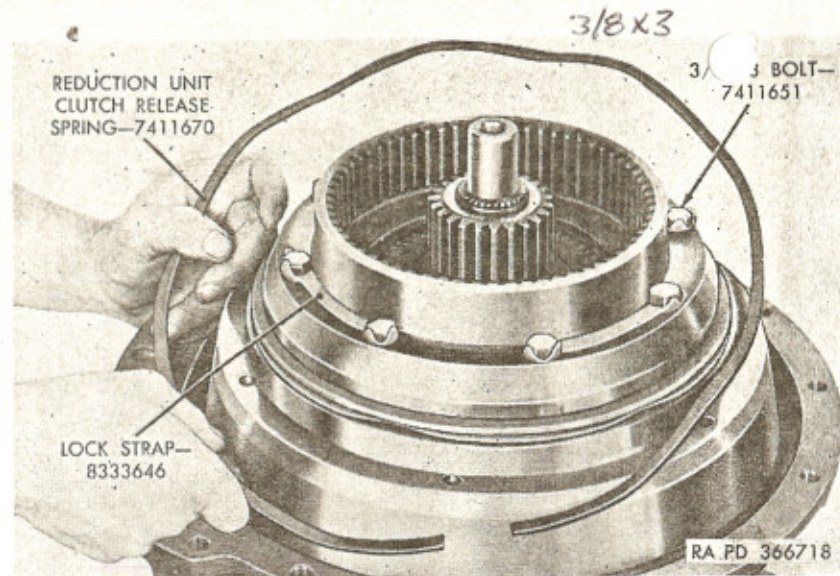

Figure 21. Removing or installing reduction unit clutch release spring (303M).
a. With transmission positioned on stand, remove reduction unit clutch release spring (fig. 21). Remove eight bolts and four lock straps attaching reduction unit internal gear to reduction unit clutch drum. Discard lock straps.